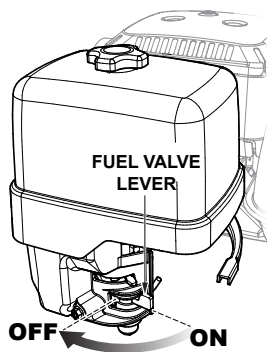

Figure 25. Fuel Valve Lever (OFF)
3. Place the fuel shut-off lever (Figure 25) in the **OFF** position.